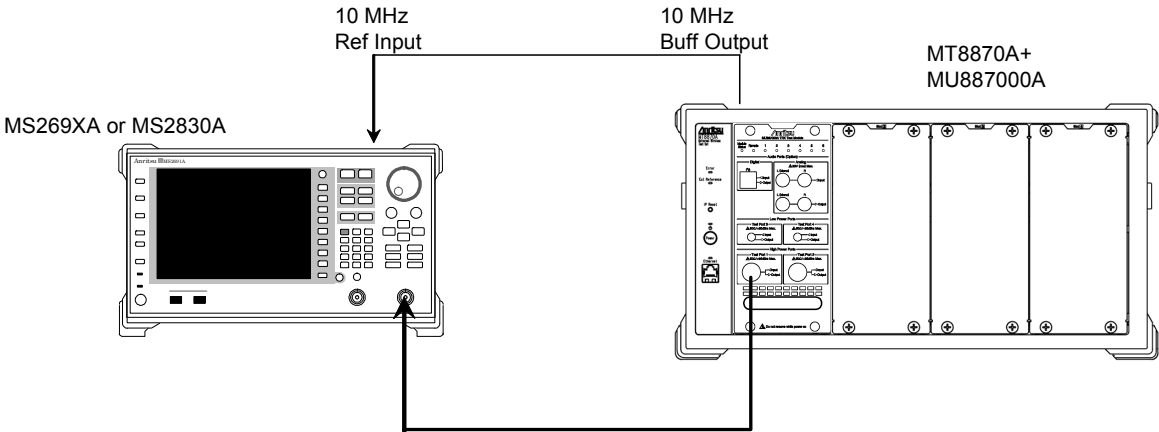

Figure 6.3.4-1 Output Rho Measurement Setup
1. Setup the instruments as shown in Figure 6.3.4-1.
2. Select the signal analyzer (SA) measurement software and set the following: